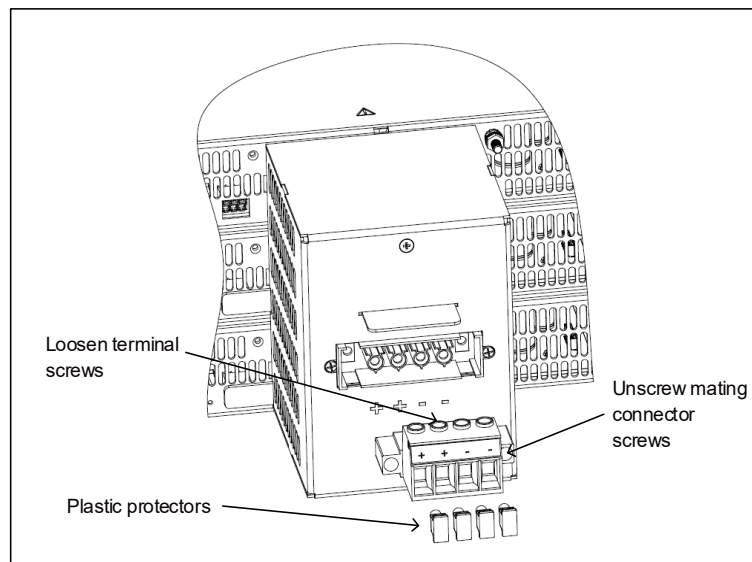

Figure 4-31: Output Connector Disassembly
2. Unscrew the mating connector from the power supply rear panel and loosen the terminal screws, remove the plastic protectors. Refer to Figure 4-31 (15kW is shown, it applies to 10kW as well).